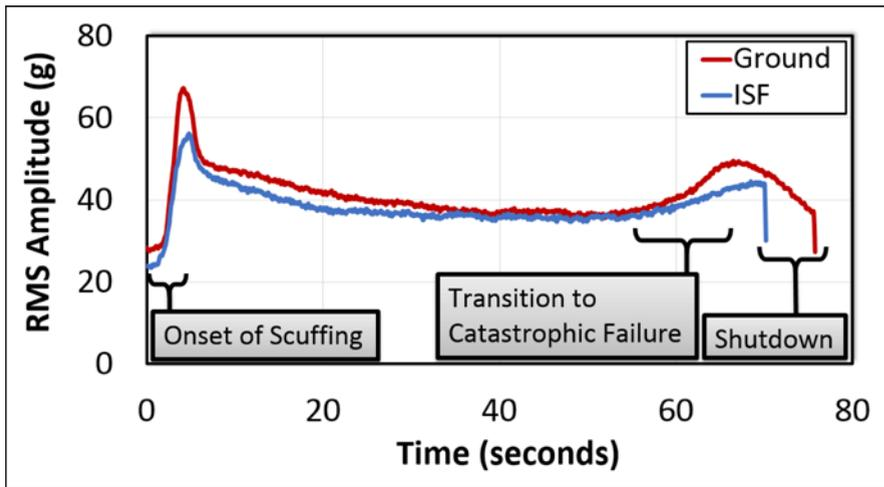

Figure 10 RMS accelerometer data.
**Noise and vibration measurements.** Noise and vibration data were also collected during testing. A sample rate of 51.2 kHz was used for the data presented (Figs. 10–11), which in this case captures up to the fourth harmonic of the tooth meshing fundamental frequency.
Figure 10 shows the RMS amplitude of the accelerometer data for two tests conducted with as-ground and isotropic superfinished (ISF) test surfaces. The accelerometer data is shown to have trends similar to the friction measurement data. An initial peak during the scuffing event is followed by a period of stable operation, leading to a second increase when the test transitions to catastrophic failure.